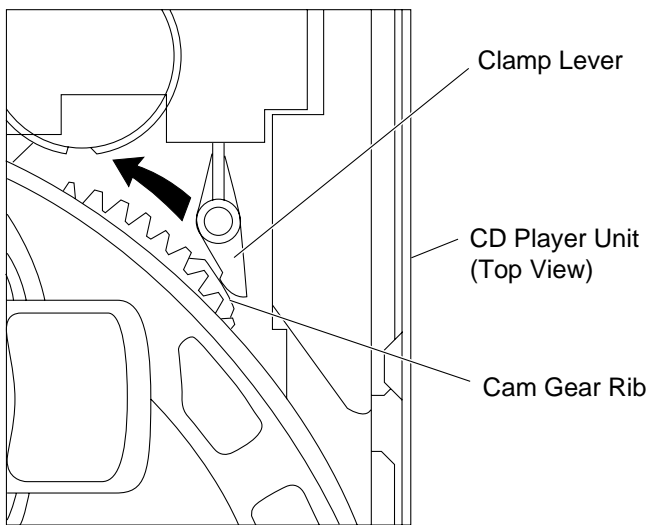

Figure 11-2
2. While holding the lock lever, rotate the cam gear anticlockwise until the cam gear rib engages with the clamp lever. (Fig. 11-2)